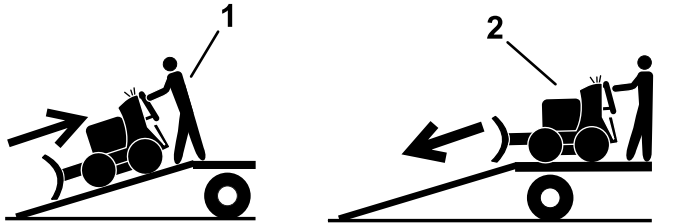

Figure 28
4. Back the machine up the ramp (Figure 28).